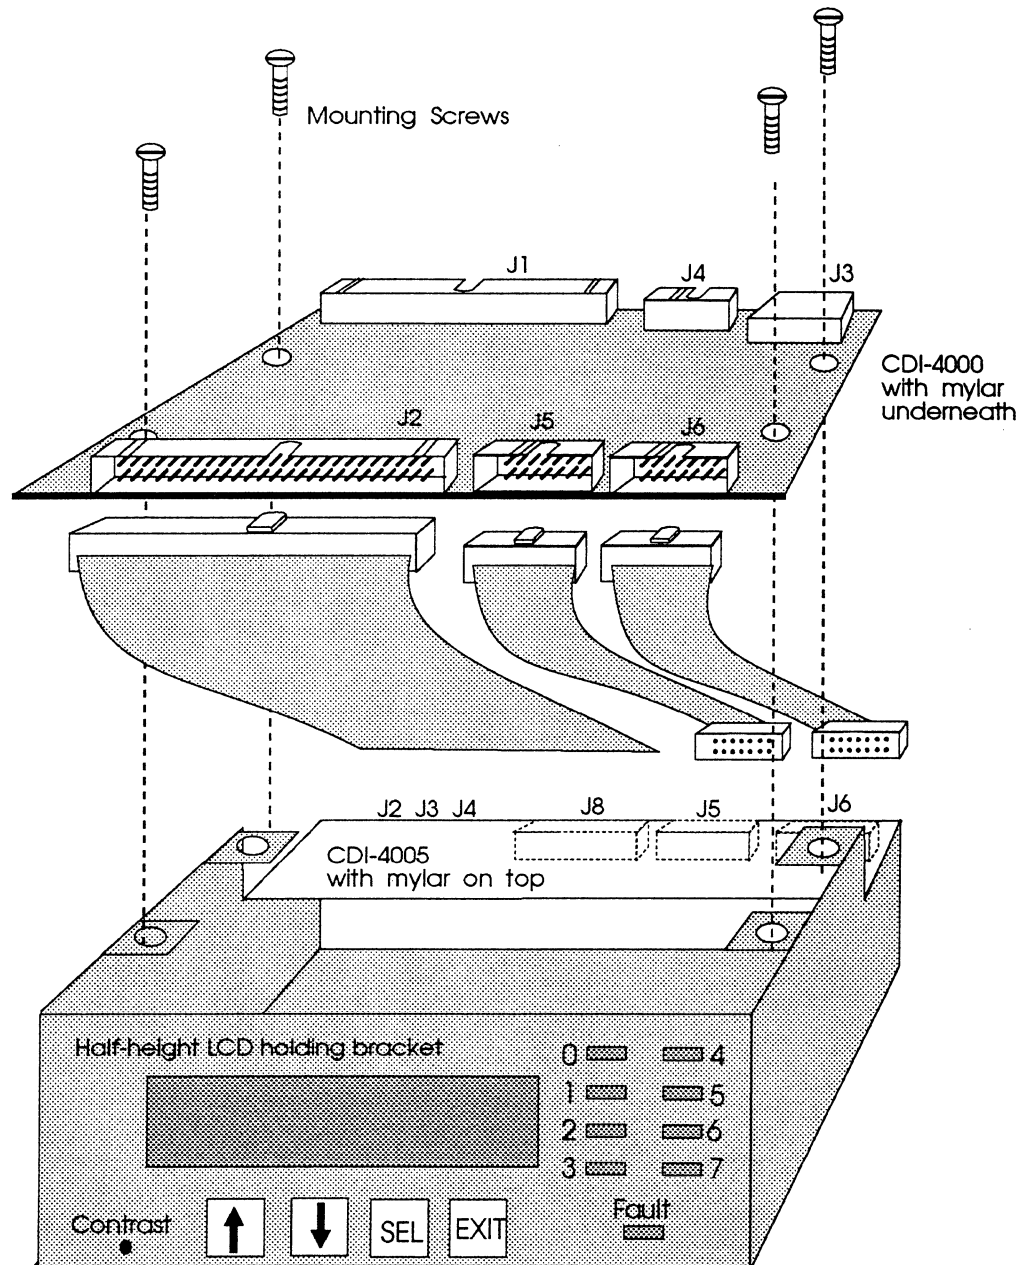

Figure 7-17: Mounting CDI-4000 to LCD holding bracket
- 5 Align the CDI-4000 with J2 facing the LCD, component side up, as shown in Figure 7-17, and put four screws into the LCD holding bracket through the CDI-4000.